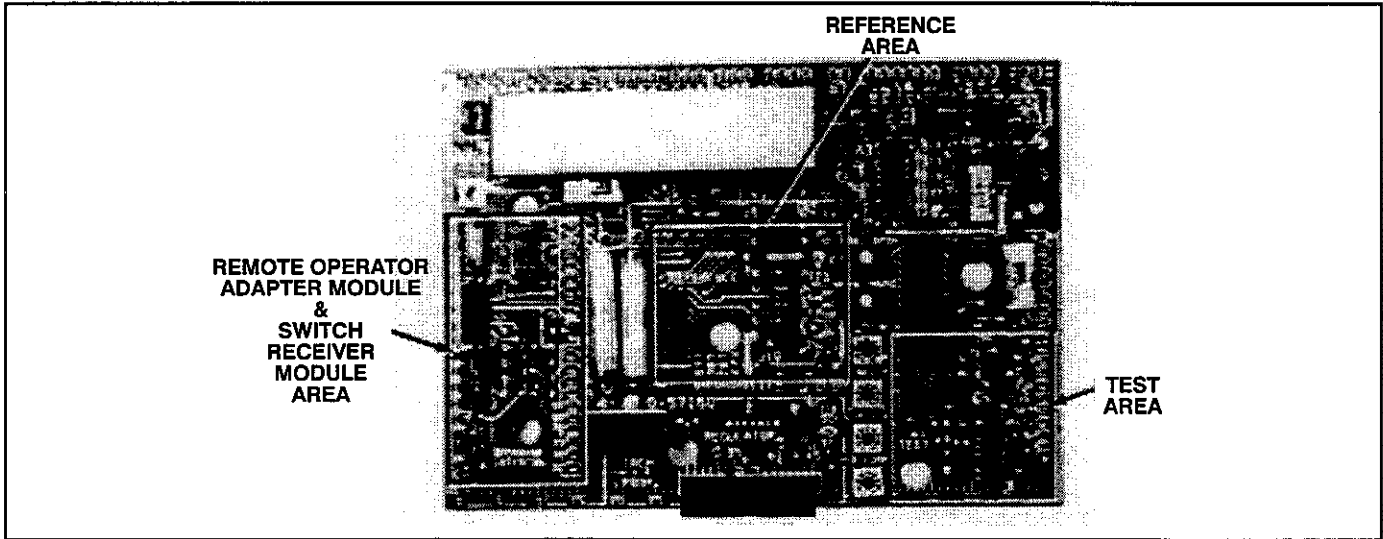

Figure 2 – Regulator Module Kit Locations
1. Orient the Test Meter Adapter Module over the area on the Regulator Module marked TEST, just over the nine pins. (Refer to Figure 2) . Lower it so that the pins pass through the guides on the Module. Use the screw to secure it.